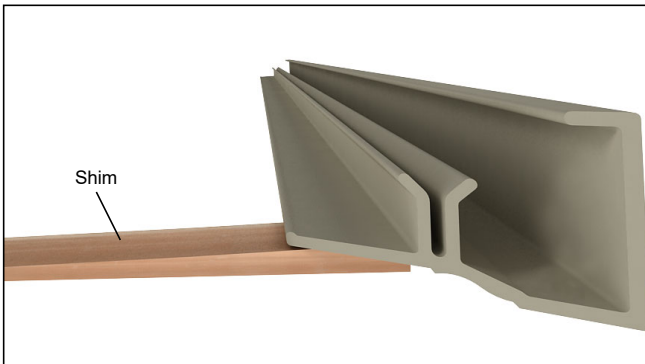

Figure 7
2. Shim under the interior edge before applying screws to corner key. See *figure 7*.